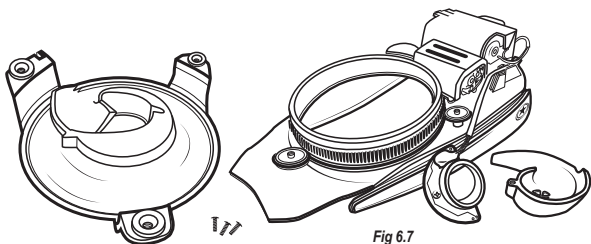

Fig 6.7
4. Once the screws are removed, the Ball Tray can be removed from the Floor and the Feed Hood can be separated from the Ball Tray for cleaning (Fig 6.7).